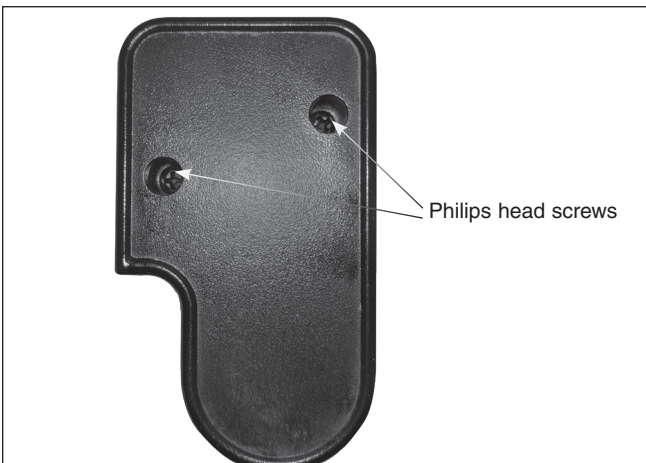

Figure 9. The Dec. GoTo motor cover
2. Using the supplied Phillips-head screwdriver remove the Dec. Motor cover from the Dec. motor assembly (**Figure 9**). Once the screws have been removed pull the cover off the motor. There will be some friction resistance but it should pull off by hand. Save the cover and screws in a safe place to reinstall after the motor is attached.